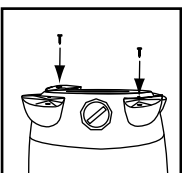

FIGURE 6
6. Secure with screws provided **FIGURE 6.**